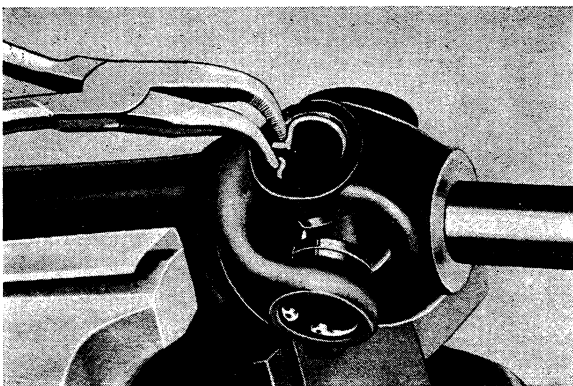

Fig. 4-120. Removing snap ring
1. Remove the snap rings which secure the needle bearings in the yokes, see Fig. 4-120.